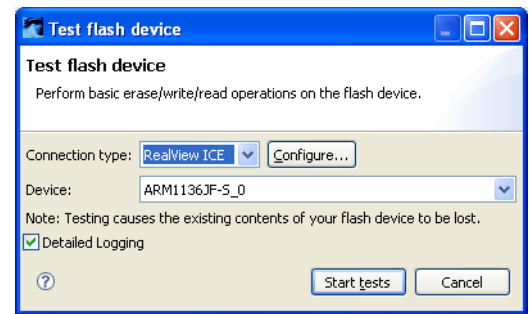

Figure 6-7 Test target connection method
3. To test your device, Click on **Test...** to access the Test Target dialog box as shown in Figure 6-7 on page 6-8.